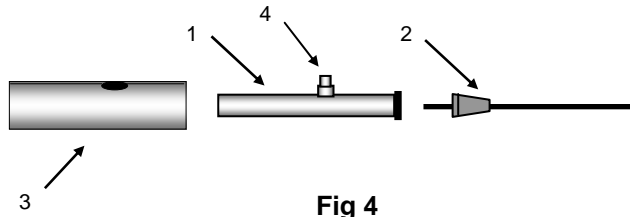

Fig 4
1. Assemble the apparatus as per Fig. 4.